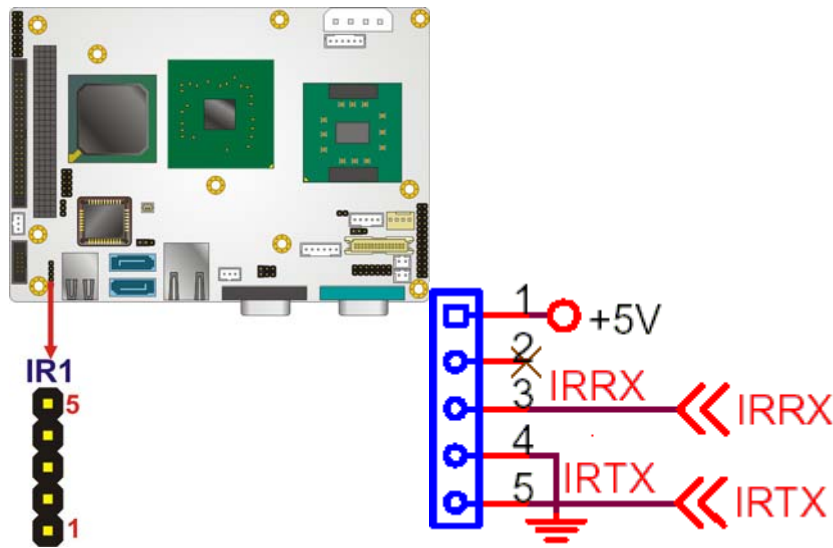

Figure 4-10: Infrared Connector Pinout Locations
- CN Location:** See **Figure 4-10**